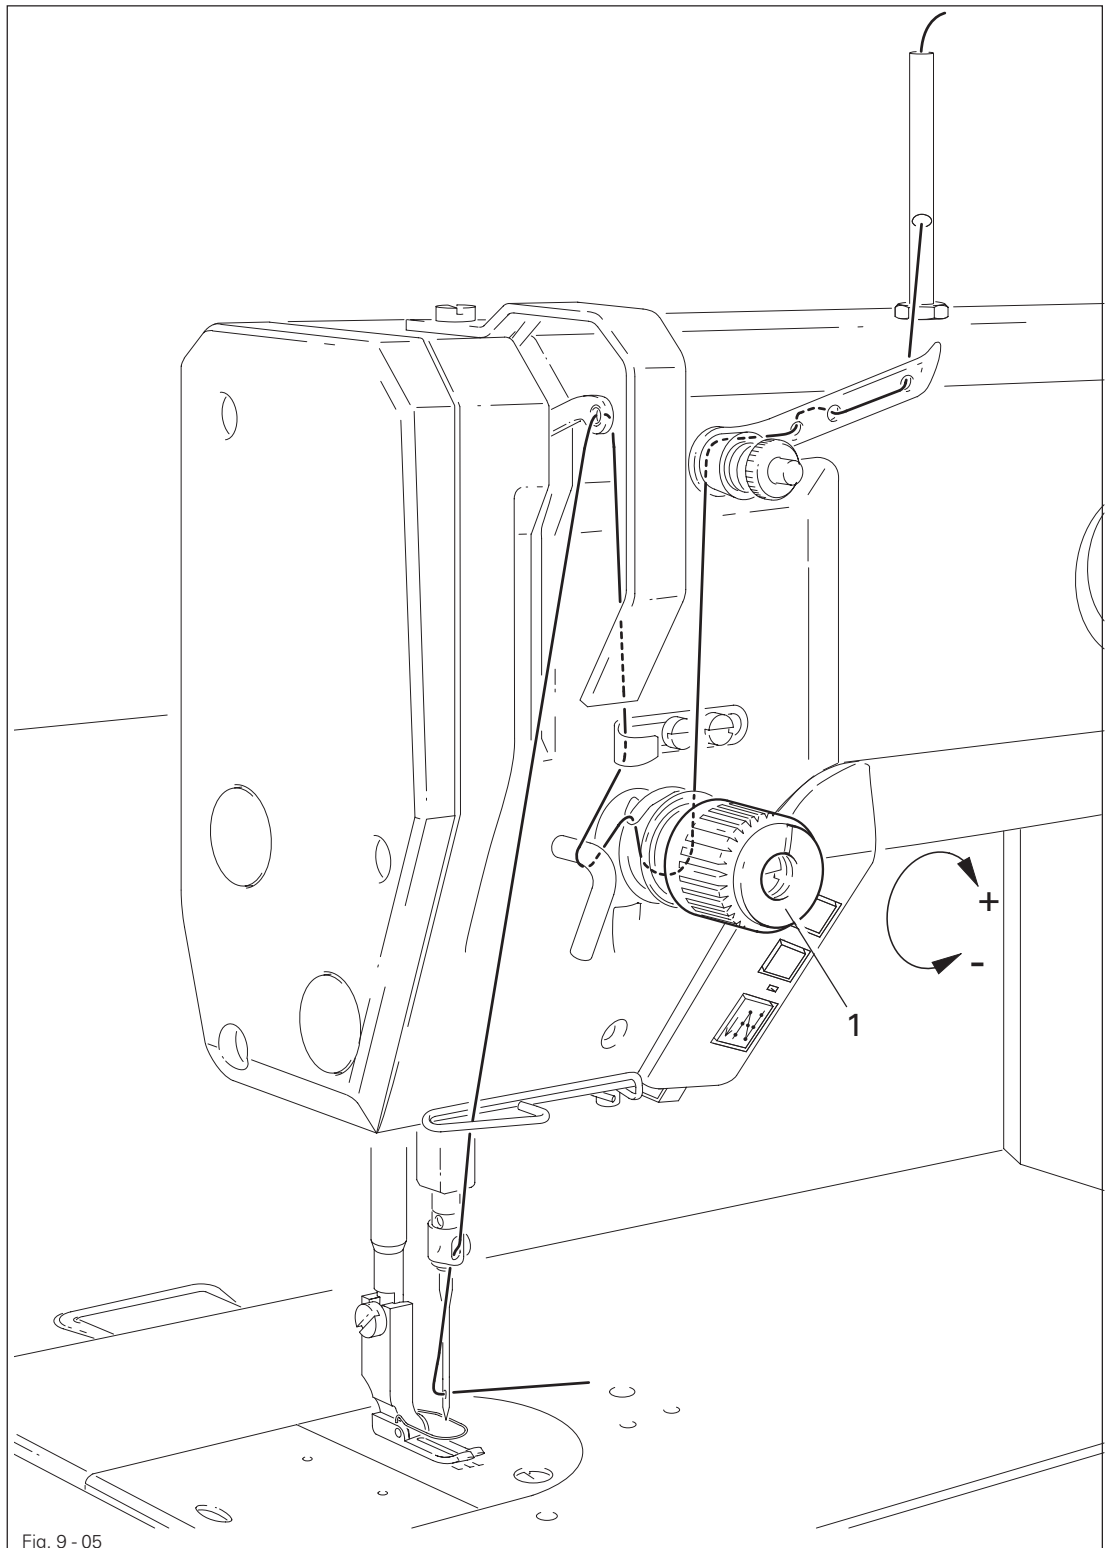

Fig. 9-05
- Thread the machine as shown in Fig. 9-05.